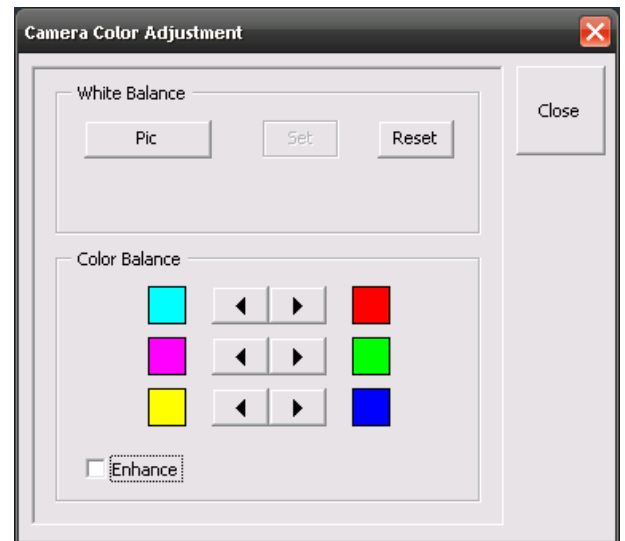

Fig. 14 Camera Color Adjustment window
- The **Camera Color Adjustment** window appears on the screen (see Fig. 14).